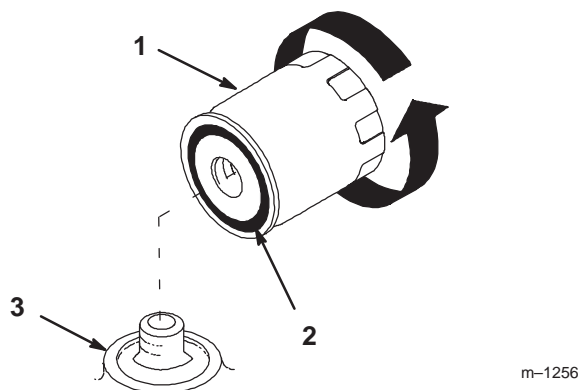

Figure 27
2. Remove the old filter and wipe the filter adapter (Fig. 27) gasket surface.
3. Apply a thin coat of new oil to the rubber gasket on the replacement filter (Fig. 27).
4. Install the replacement oil filter to the filter adapter. Turn the oil filter clockwise until the rubber gasket contacts the filter adapter, then tighten the filter an additional 1/2 turn (Fig. 27).